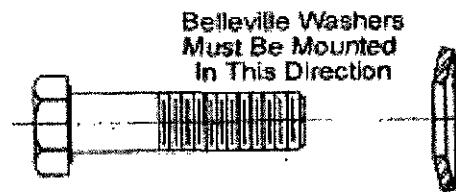
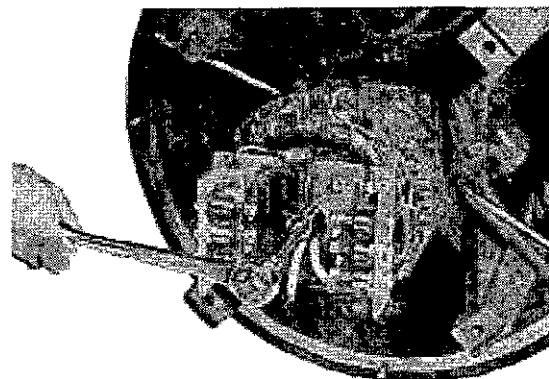
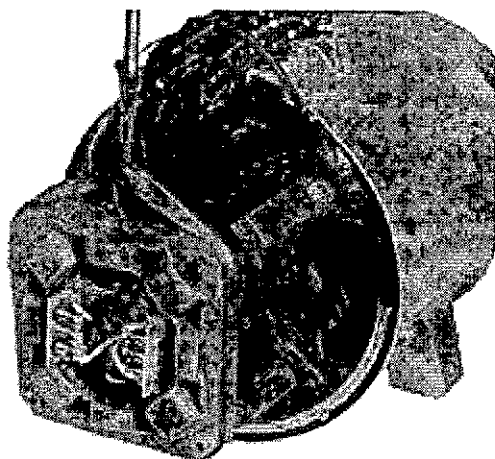

Figure 6-72
Figure 6-73
Figure 6-75
Insert the cap screw and Belleville washer (Figure 6-72.) through the mounting hole in the aluminum standoff plate and secure to the shaft (Figure 6-73). Tighten the cap screw until the armature seats on the shaft. Torque to 84 lb.-ft (114 N-M).
3. Position the exciter field leads at the left (9:0'clock) inboard position. Using a suitable lifting device, mount the exciter stator on the front e bracket mounting pads and align the mounting holes. (Figure 6-75.) Mount the cap screws with Belleville washers. (Figure 6-72.) Torque the cap screws to 60 ft-lb. (81 N-M). Route and secure the exciter stator leads away from any moving parts.